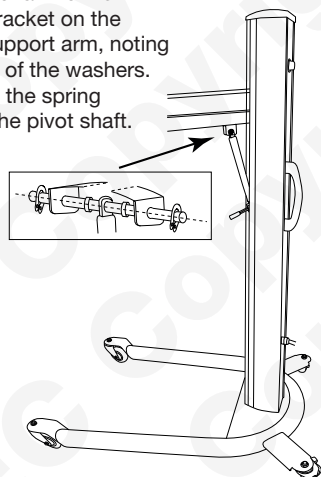

Figure 3
2. Refer to **Figure 3**; assembly the hydraulic ram to the mounting bracket on the lamp unit support arm, noting the position of the washers. Secure with the spring circlips on the pivot shaft.